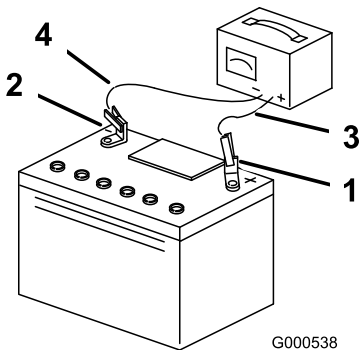

Figure 43
- When the battery is fully charged, unplug the charger from the electrical outlet, then disconnect the charger leads from the battery posts (Figure 43).